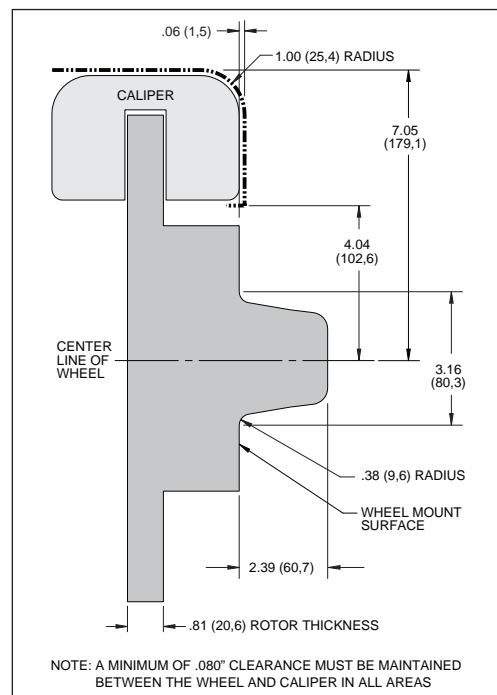

Figure 3. Wheel Clearance Diagram
- Verify wheel clearance using Figure 3.